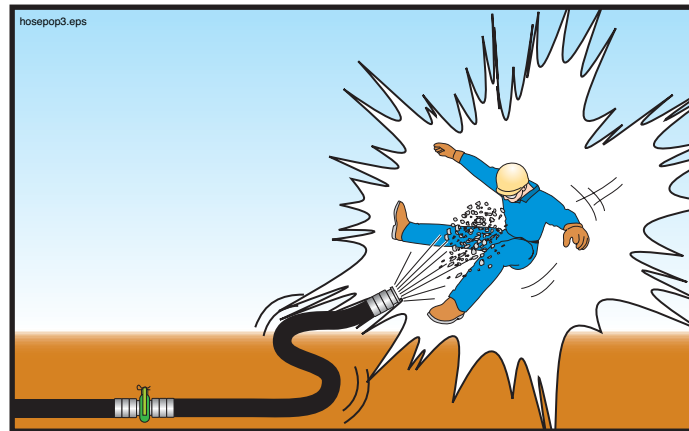

Figure 15
⚠ WARNING Do not let the concrete level in the hopper become low! If air is sucked into the material cylinders, the pump will compress the air. Compressed air always poses a hazard as it is expelled from the hopper or the delivery pipeline (Figure 15). If air is taken into the material cylinders, take the following steps to minimize the hazard:
3. Persons standing at the discharge end or near the delivery line must be warned to move away until all of the air has been purged. Personnel should move a prudent and reasonable distance beyond the end-hose movement area or the point of discharge, and personal protective equipment (PPE) should be worn (Figure 15).
6.12  **WARNING** When initially priming the delivery system, when restarting after moving, when restarting after adding or removing hoses, when attempting to remove a blockage by “rocking” the concrete, or whenever air has been introduced into the line, warn everyone to stay away from the discharge until material runs steadily. Personnel should move a prudent and reasonable distance beyond the end-hose movement area or the point of discharge, and personal protective equipment (PPE) should be worn (Figure 15).